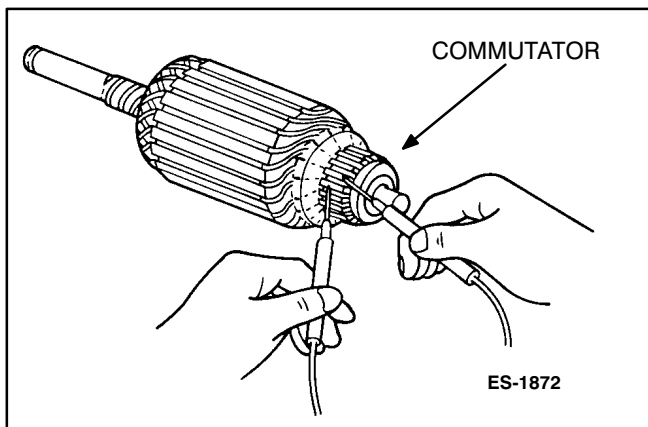

FIGURE 6-22. MEASUREMENT BETWEEN COMMUTATOR SEGMENTS
1. Use an ohmmeter to check for continuity between the armature segments as shown in Figure 6-22.